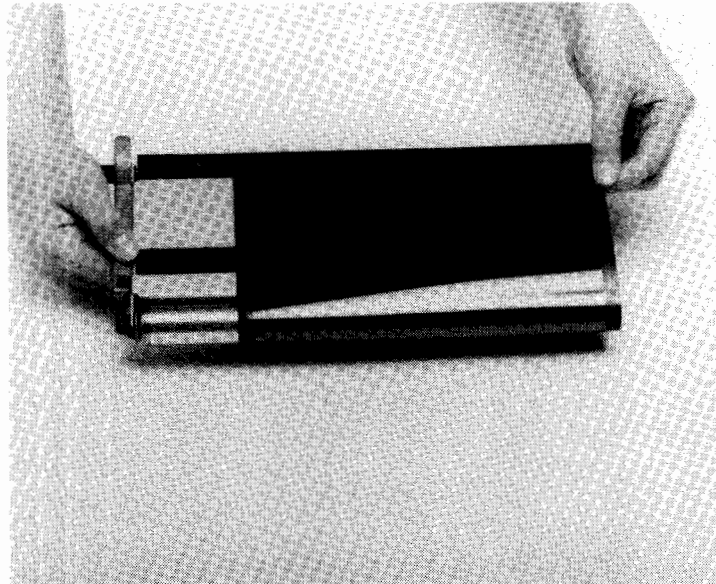

Figure 4-24. Removing OPC Belt
- j. Remove the OPC belt by pulling in it the direction shown by the arrow (figure 4-24).